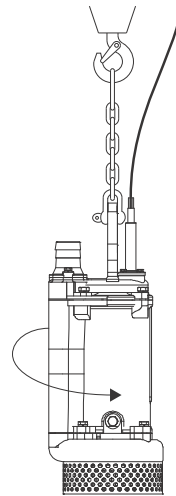

Fig. 8 Checking the direction of rotation
2. Start and stop the pump while observing the movement (jerk) of the pump. If connected correctly, the impeller will rotate clockwise when viewed from above. Consequently, when started, the pump will jerk counter-clockwise. See fig. 8. If the direction of rotation is wrong, interchange any two phases in the power supply.